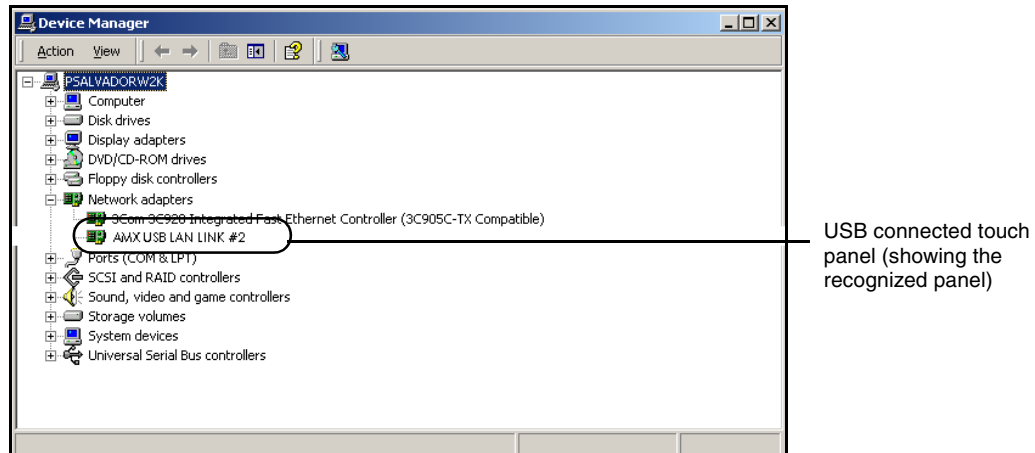

FIG. 55 Device Manager dialog showing USB device
- Within the *Device Manager* dialog, the AMX USBLAN device appears under Network Adapters (FIG. 55) and has a unique name such as AMX USB LAN LINK #2. The number changes depending on which recognized panel is currently connected.